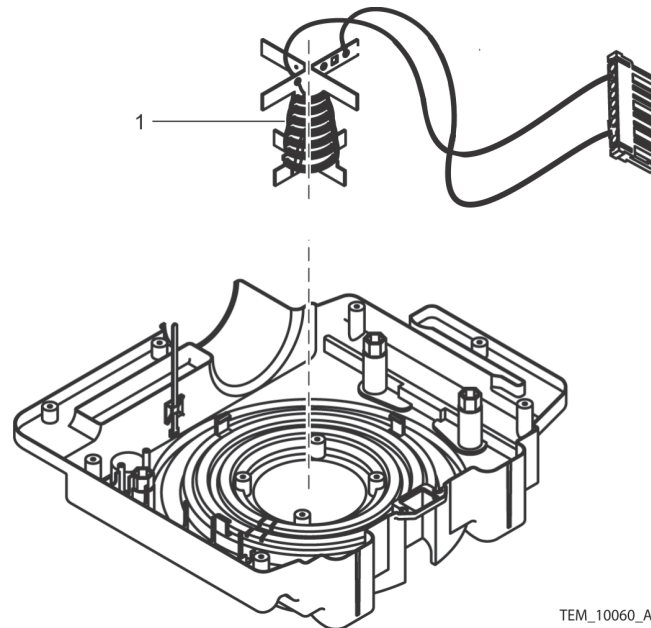

Figure 75. Heater Assembly
29. Lift the heater assembly (Figure 75, item 1) out of the rear cover assembly.